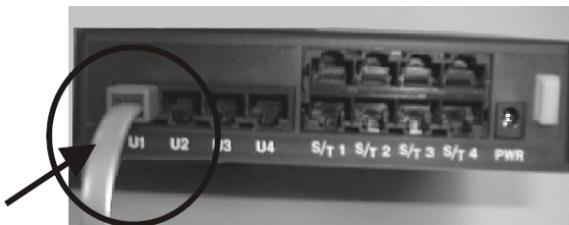

Figure 5. U-Interface Connector
Step 3: Connect the RJ-45 end of the hybrid cable provided to the U-Interface connector on the UT4620 as in **Figure 5**, then connect the RJ-11 end of the hybrid cable to the U-Interface outlet.